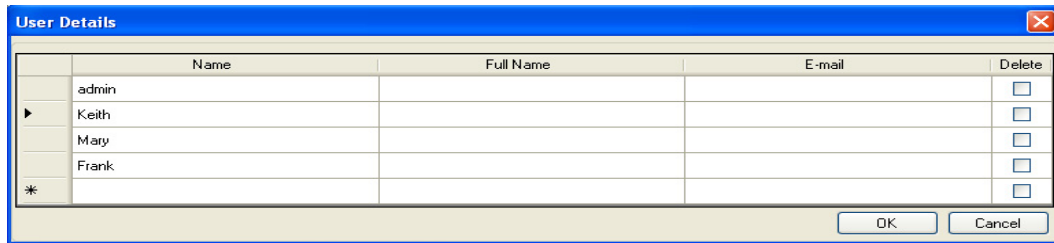

Figure 16. Scheduler User Details window.
3. To add a new user, select **View > User Details** or click the **Manage Users** button below the Users list. In the User Details window (Figure 16), enter the new user name in the Name column. An email address can be entered so that optional electronic notifications can be sent.